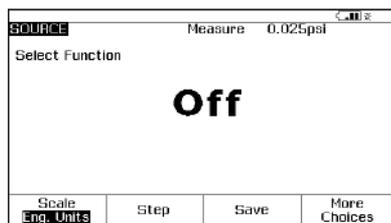

Figure 14.
4. Next depress the "MEAS/SOURCE" button; now you are in the source screen (Figure 14).